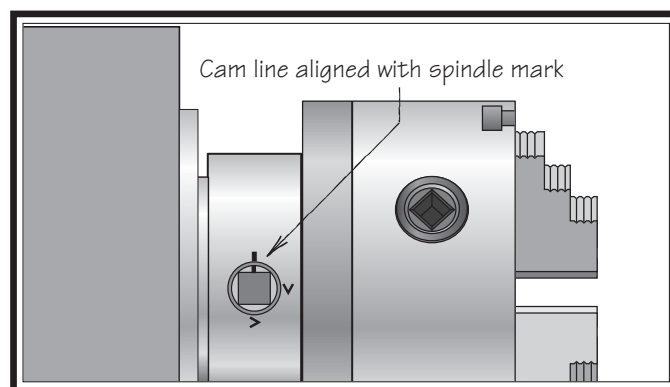

Figure 31. Camlock is fully loosened when the cam line is aligned with the spindle mark.
3. Loosen the camlocks by turning the key counterclockwise until each of the cam lines are aligned with its corresponding spindle mark (see **Figure 31**).